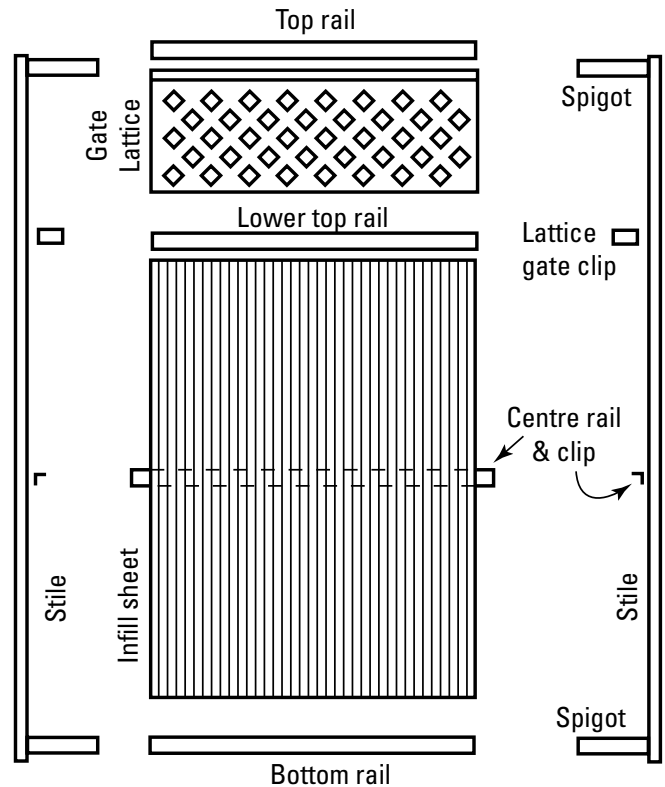
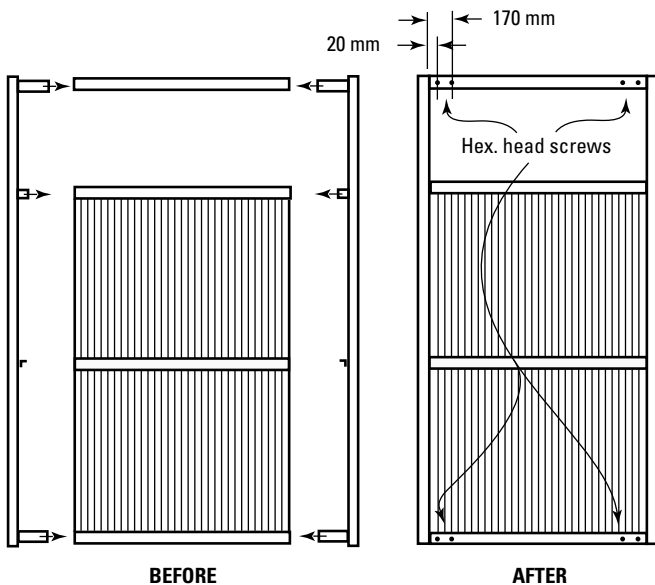

Figure 23.1
Figure 23.2
- 2) For extra-wide gates: overlap sheets to the desired width (Figure 23.1). Join the two sheets with hex. head screws #10–16x16 through the overlaps, at both top and bottom edges (Figure 23.2).
2. Lay out all the components (Figure 23.1) on some soft material to protect the COLORBOND steel finish.
7. Insert the spigots of both stiles into the top and bottom rails and locate the centre rail on its clips. If a lattice is used, ensure that the lower top rail fits neatly onto the lattice gate clips (Figure 23.2). Even up the sheets by bumping the ribs with the palm of your hand.
8. Hold both stiles firmly in place and drive one hex. head screw #10-16 x 16 in each of the four corners, 20mm from the inside edge of the stile (Figure 23.2).
9. Check squareness by measuring the gate's diagonals. Drive a second hex. head screw (#10-16x16) in each of the four corners, 170mm from the stile (Figure 23.2).